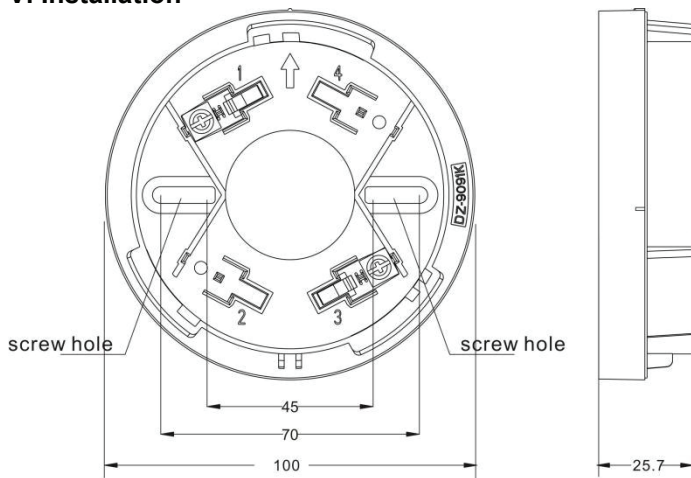

Fig. 3 Base and wiring diagram
1. Use two M4 screws to fix the DZ-9091K base via the two elliptic screw holes(see Fig.3), then connect the power cables with the Terminal 1& 3 (1 connected with positive,and 3 with negative.1.5mm² or above fire cable for the power input is recommended.), finally twist the main body onto the base.